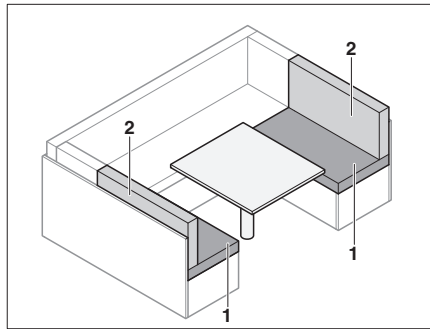

Fig. 68 Prior to conversion
- Remove the back cushions (Fig. 68,2).